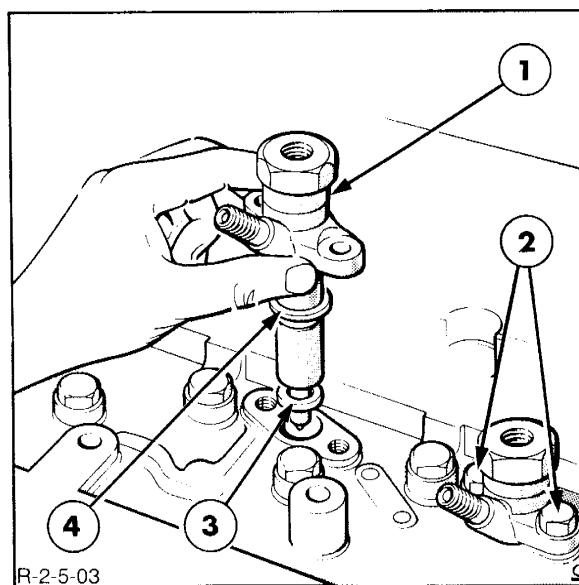

FIGURE 1-6
22. Clean the area surrounding the fuel injectors. Hold the leak-off pipe at each injector and carefully disconnect the fuel injector leak-off pipes, then remove the bolts and carefully remove the fuel injectors and washers, Figure 1-6.